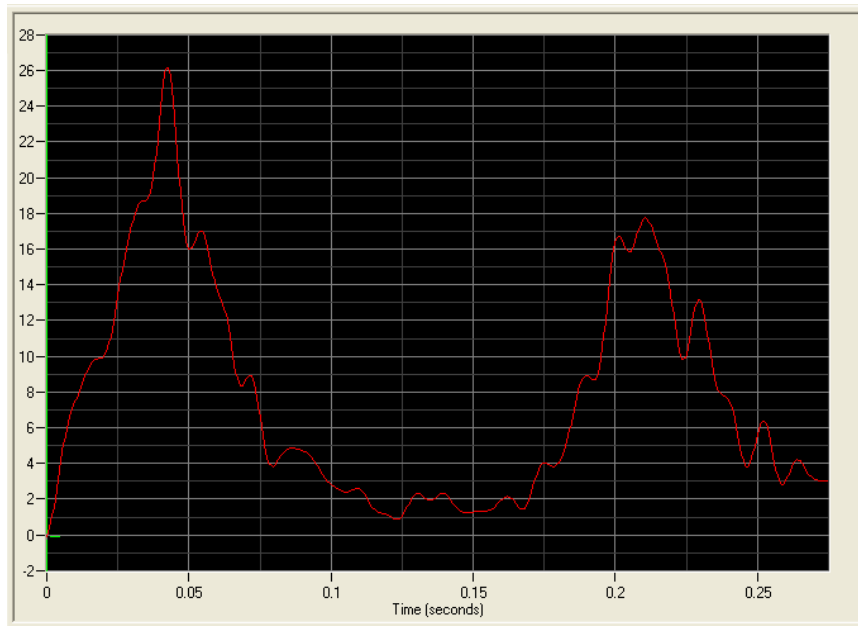

Figure 13
11. Click the **Apply** button, followed by the **Close** button. Your graph will automatically update to show the results of the filter on your plotted data (Figure 13).